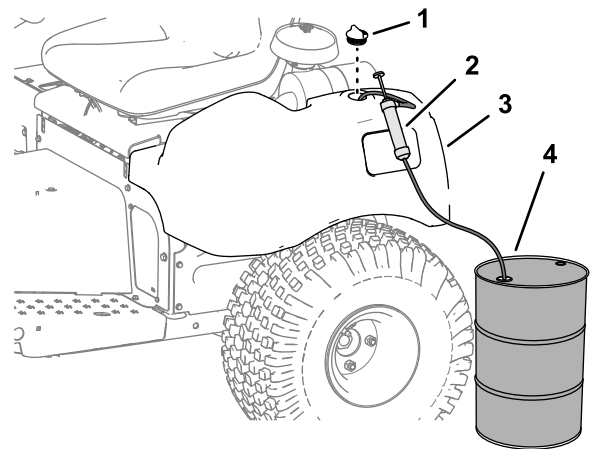

Figure 46
- Remove the cap from the hydraulic reservoir (Figure 46).
- Pump the hydraulic fluid from hydraulic reservoir (Figure 46).